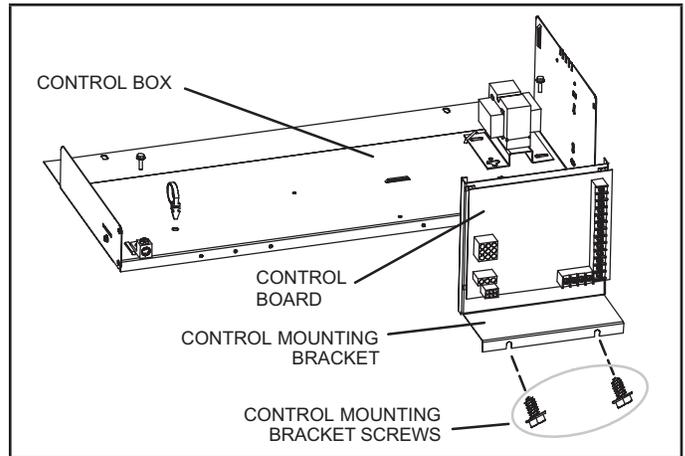

Figure 1. Air Handler Control Removal and Installation
4. Once all connections have been transferred to the new control. Remove the old control by removing the two screws securing the control mounting bracket to the control box (see “Figure 1. Air Handler Control Removal and Installation”). Also see “Air Handler Control Button and Display” on page 8.
Control board must be installed in proper orientation for all wiring to reconnect to the control board. Please refer to Figure 1 diagram above for control board orientation. Same orientation whether unit is configured for up-flow, down-flow, horizontal right or horizontal left.